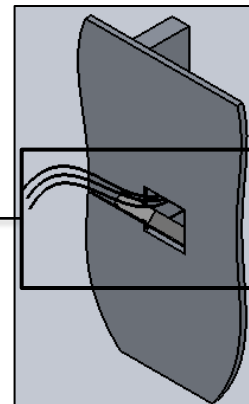

FIG. 14- DRIVER PLATE ASSEMBLY
9. Slide DRIVER PLATE into the box with the DRIVER facing rearward as shown in FIG. 14. As you slide the plate in, make sure you pull the BUILDING SUPPLY connections through the large hole in the DRIVER PLATE and other wires will already be through center hole.